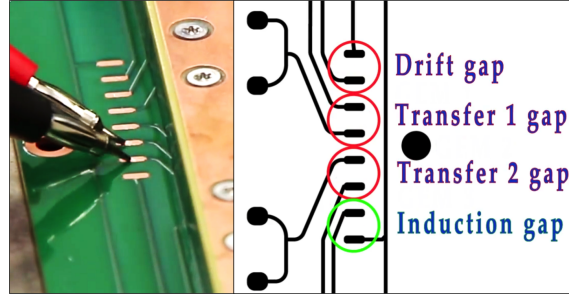

Figure 114: Testing the GEM foils and the gaps.
Step 7: Test again the GEM foils and the gaps at 550 V (Fig. 114). Discharge the foils after each test.